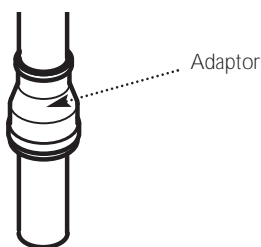
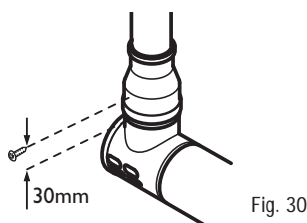

Fig. 31
Fig. 30
9. The 60Ø exhaust can now be fitted. Slide the adaptor over the plain end of the 60Ø exhaust (Fig. 31) and engage the exhaust in the terminal. Slide the adaptor down over the spigot. Mark and drill the adaptor, using a 2mm bit, as shown in Fig. 30. Secure the adaptor to the spigot using one of the screws supplied.